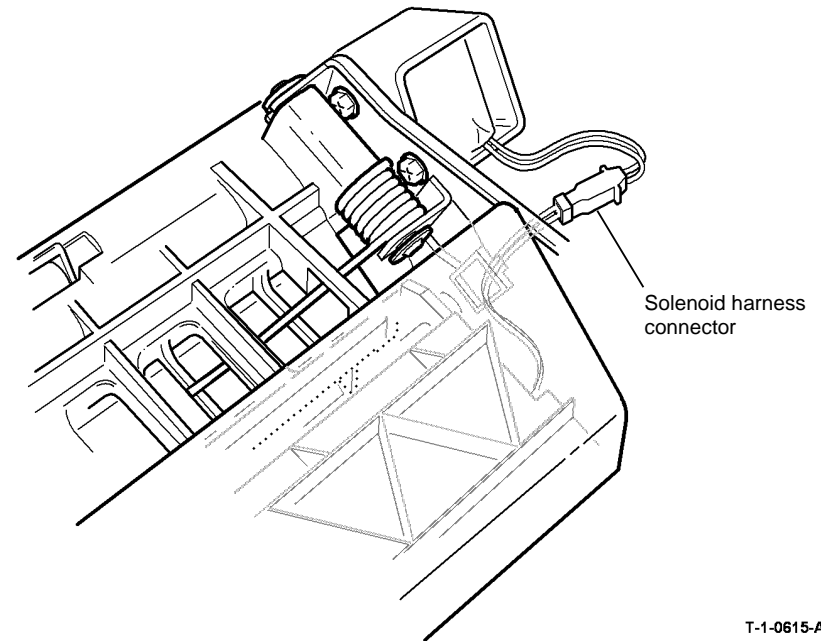

Figure 6 Solenoid harness connector
2. The solenoid harness connector is located at the rear of the inverter frame, Figure 6.